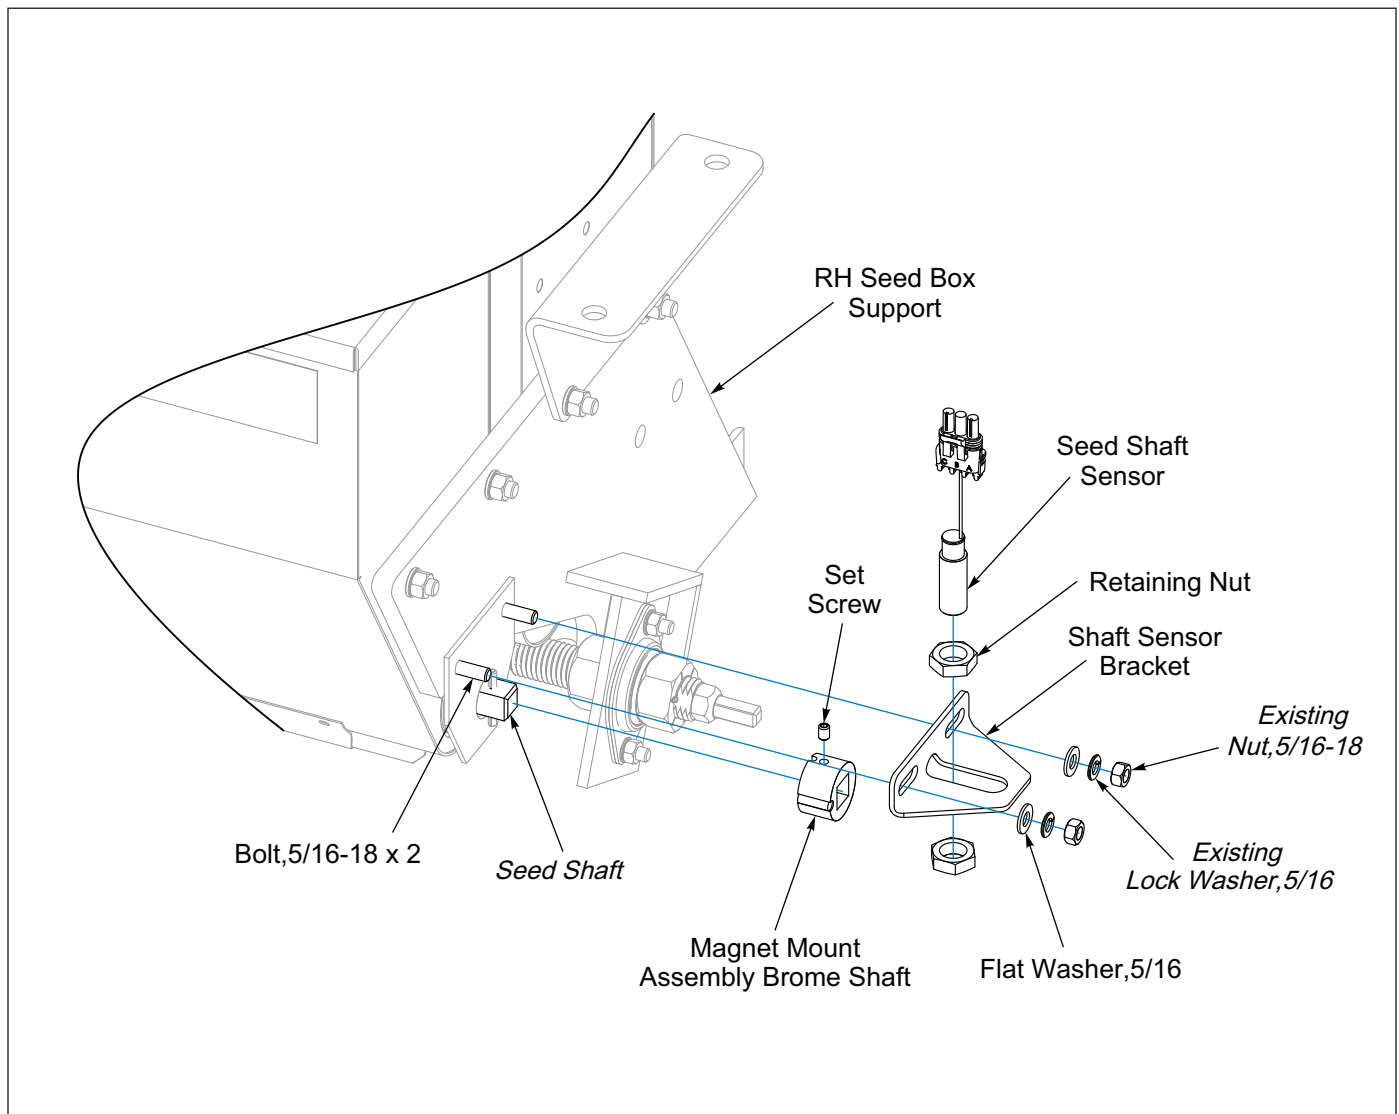

Figure 2-40: Console w/Clutch Control RH Rear Seed Box Seed Shaft Sensor
8. On the right hand side of Seeder, slide Magnet Mount Assembly onto Seed Shaft, ensure groove is aligned with Seed Shaft Roll Pin. Secure Set Screw to Seed Shaft. **See Figure 2-40.**